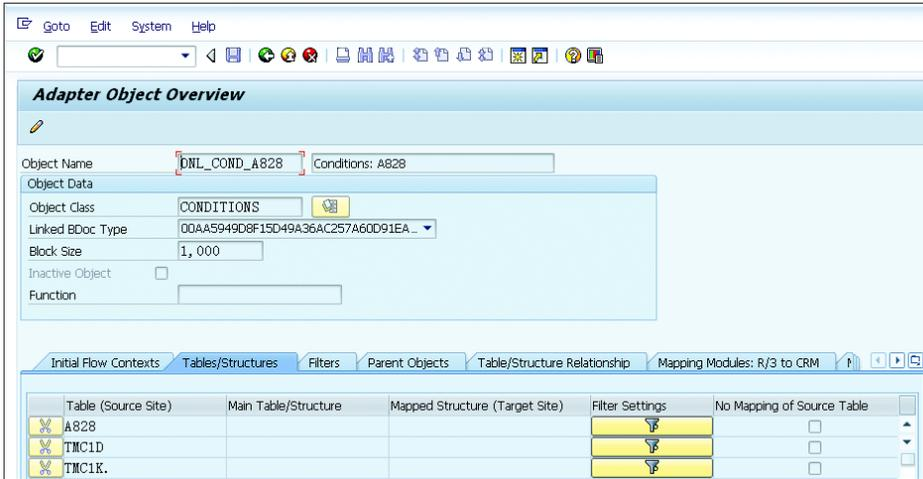

Figure 2.44 Condition Adapter Object
2. Create the adapter objects for the condition tables (if objects don't exist as standard) as a copy of one of the standard objects, for example, DNL_COND_A828 (see Figure 2.44).